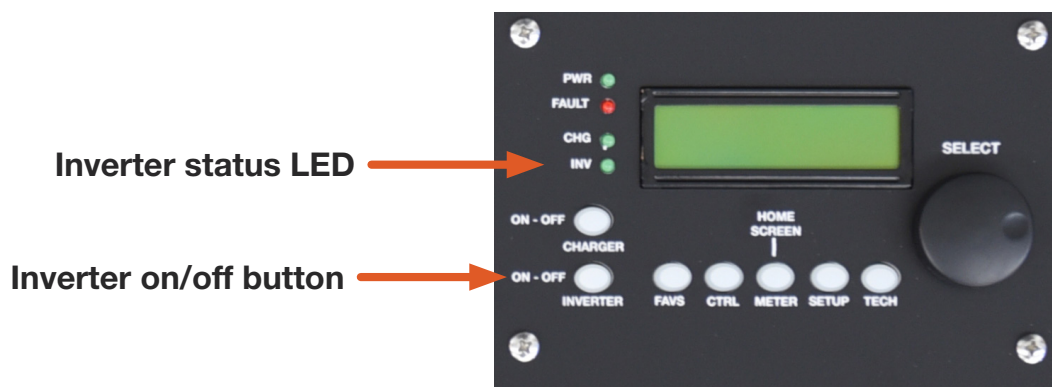

Figure 16. PRO-Verter control panel
a. Press the CTRL button (Figure 16). Rotate the SELECT knob to “03 Gen Control”. Press SELECT.